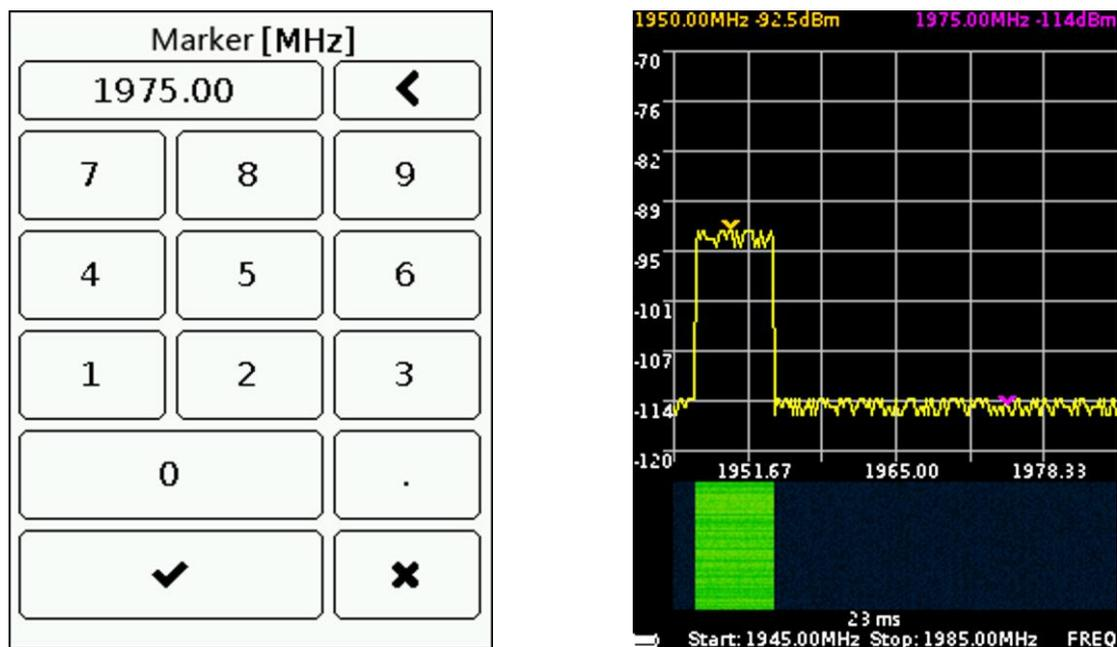

Figure 8.5.2 - Entering the marker frequency and displaying the markers on the screen
8.5.3. Setting the specified marker frequency is performed by entering a numeric value in the opened submenu, as in figure 8.5.2. Enter a numeric frequency value and press ✓ (**Data input**). To delete erroneous or previously entered values, press < (**Delete**). To refuse input a value, press × (**Cancel**). *In our example, in Figure 8.5.2, a raspberry marker 3 is installed in the «Point» mode at a frequency of 1975 MHz. The orange marker, working in the «Peak» mode, tracks the maximum signal.*